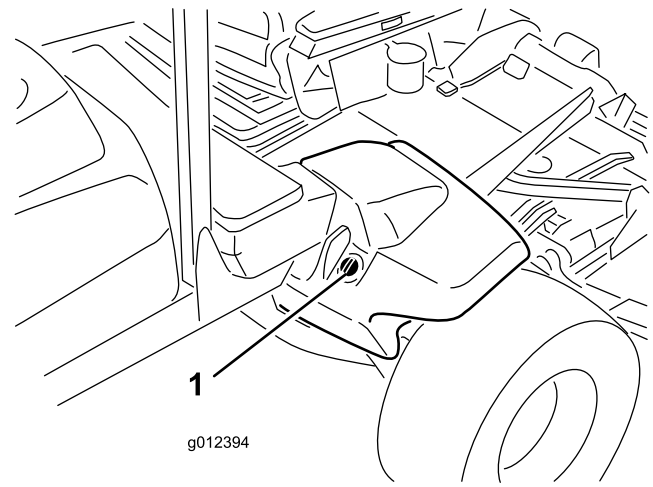

Figure 17
2. Clean the area around the filler neck and the cap of the hydraulic tank (Figure 17).